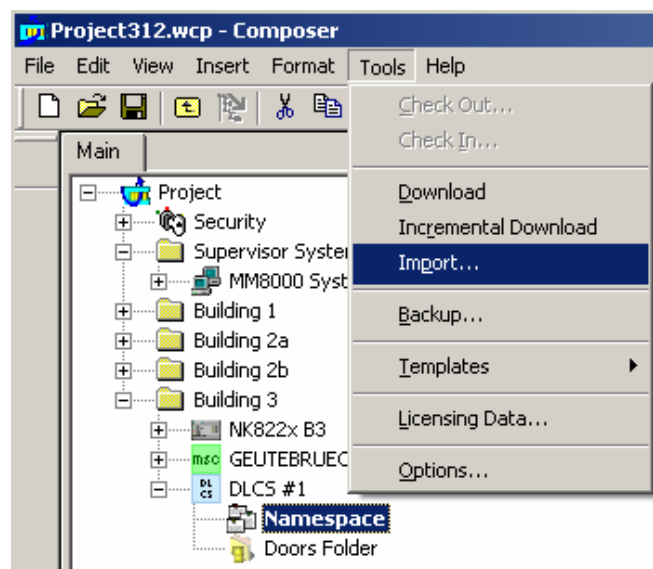

Fig 6 Importing the OPC items
3. Select Tools→Import in the Composer menu (see Fig 6)